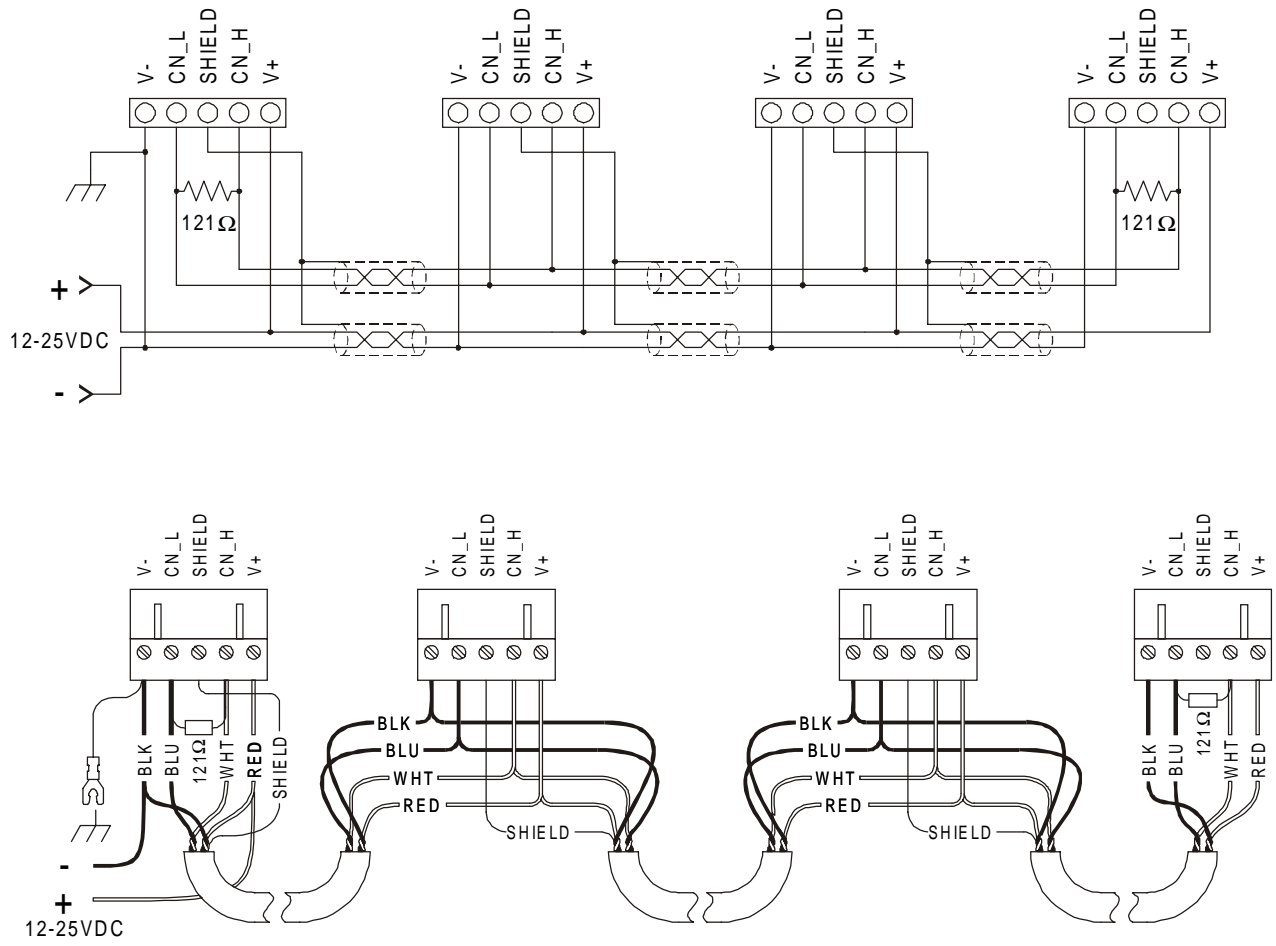

Figure 2.3 – CAN Wiring
2.2 CAN Wiring Rules (See Figure 2.3)